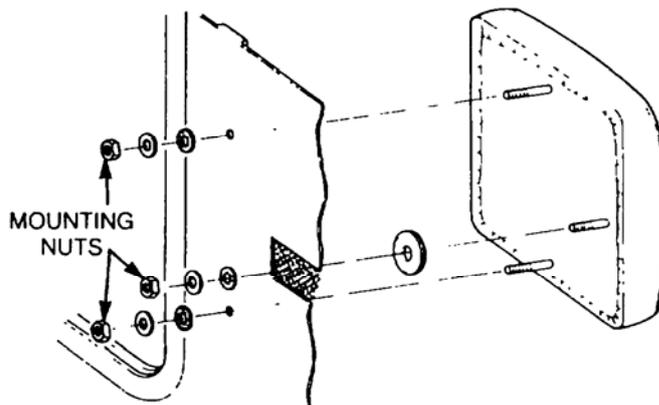

Figure 12 Rear Seat Side Head Restraint Replacement
- Remove the three mounting nuts, plain washers and rubber washers securing the side head restraint to the cab wall (refer Figure 12).